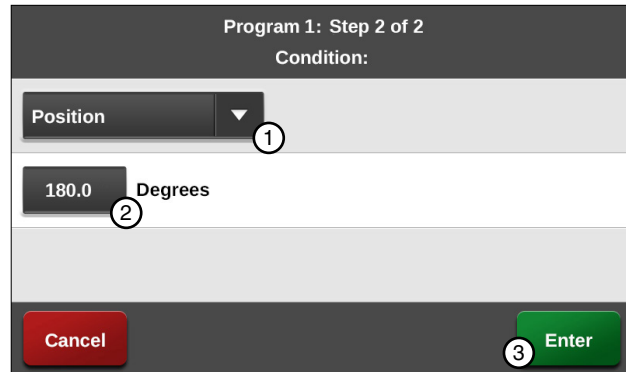

Figure 158-1 1. Position Condition 3. Enter
7. Program the position condition for this step. Refer to Figure 158-1.